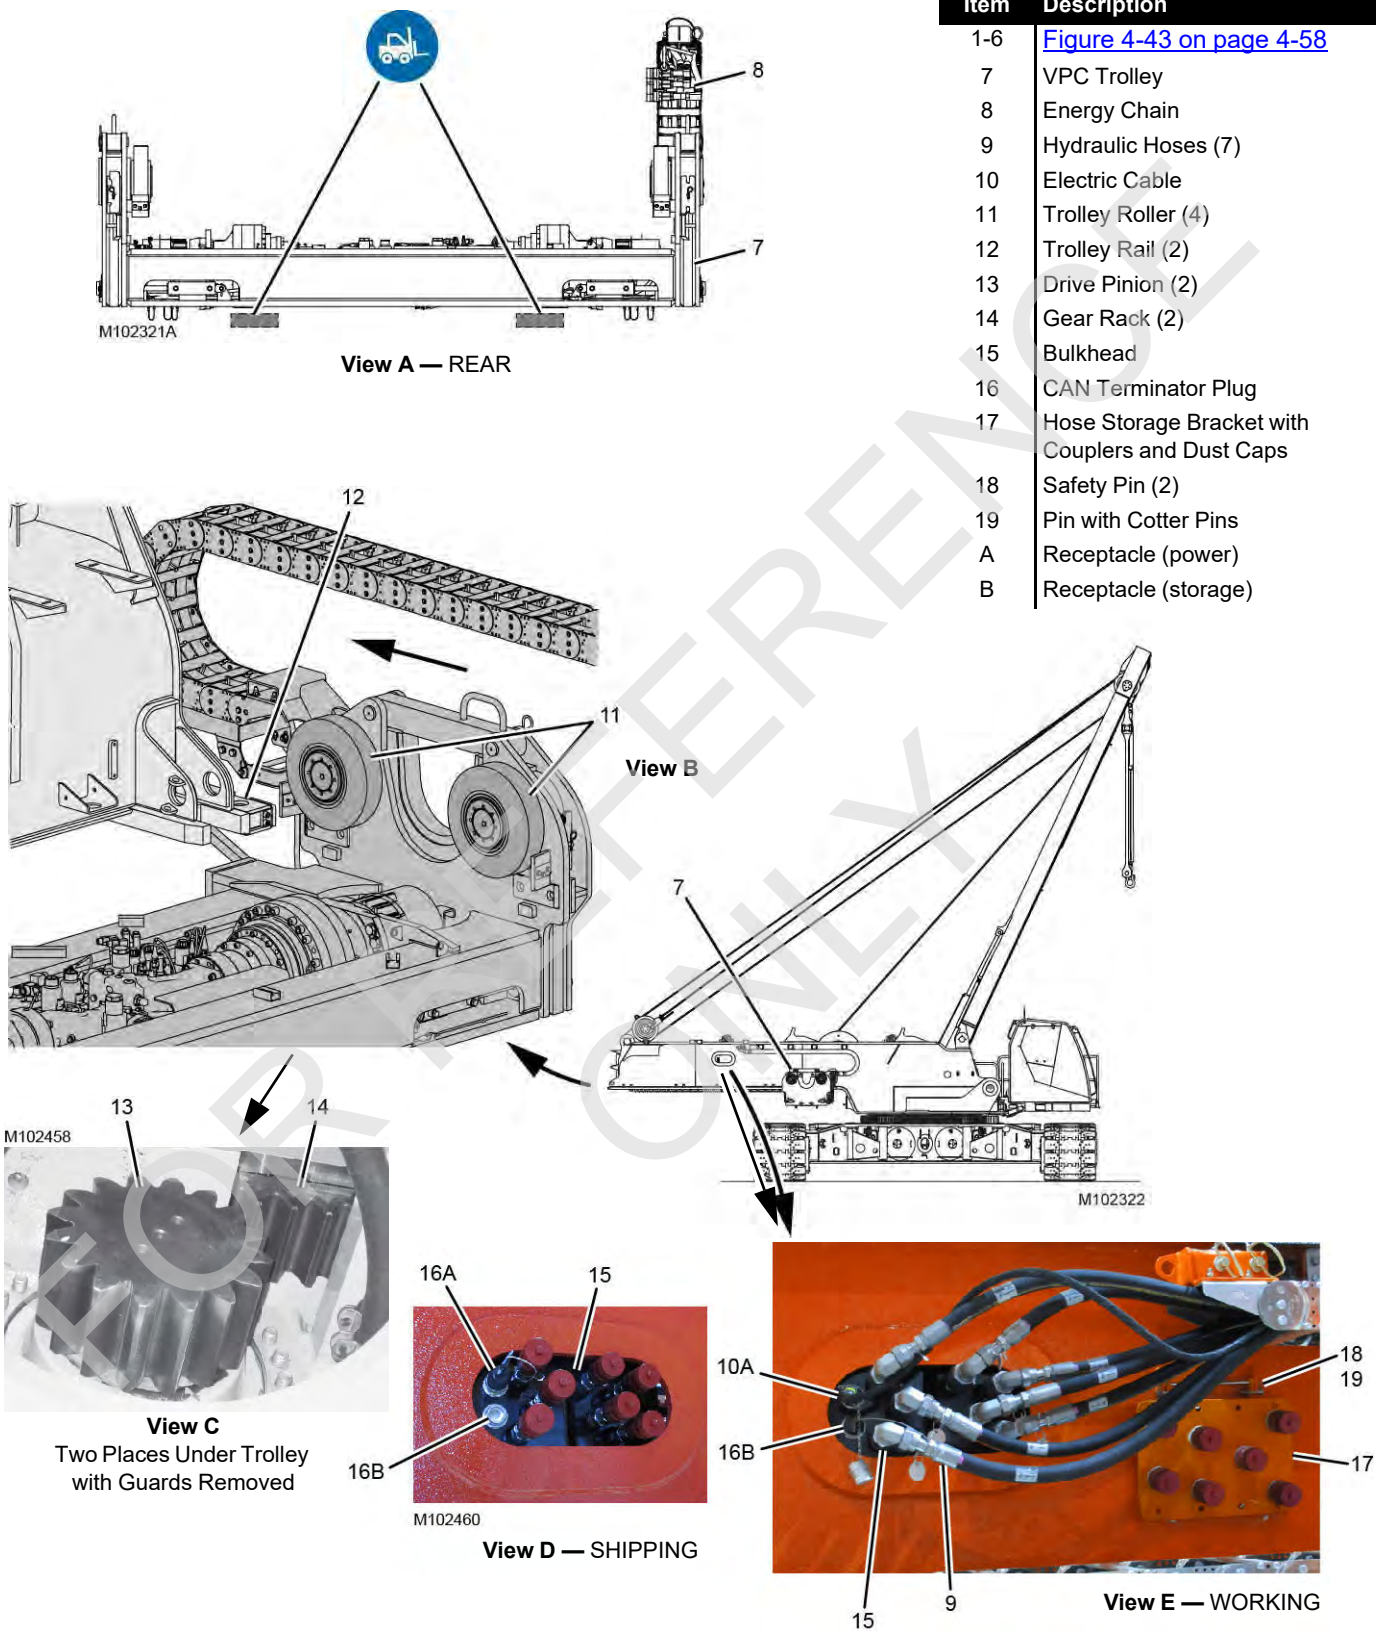

Figure 4-45
9. Attach a sling from the fork of the forklift or from an assist crane to the lifting link (14, View B) on the energy chain (3).
10. Lift the energy chain out of the energy chain supports (12 and 13, View B) and roll the energy chain (3) forward onto the energy chain support (4, View H).
13. Hold the hose storage bracket (10, View G) so it cannot fall and remove the safety pins (16) and the pivot pin (17) securing the bracket to the VPC trolley.
16. Install the hose storage bracket on the right side of the rotating bed AFTER the VPC trolley is installed. See Figure 4-45 on page 4-62.
See Figure 4-45 for the following steps.